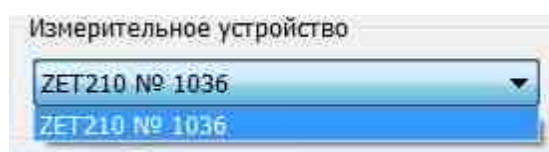

Fig. 3.10 The serial number of the device is displayed
■ when you click on the drop-down menu "Measuring device", the serial number of the ZET210 device, which is part of the ZET452 device, is displayed (Fig. 3.10);